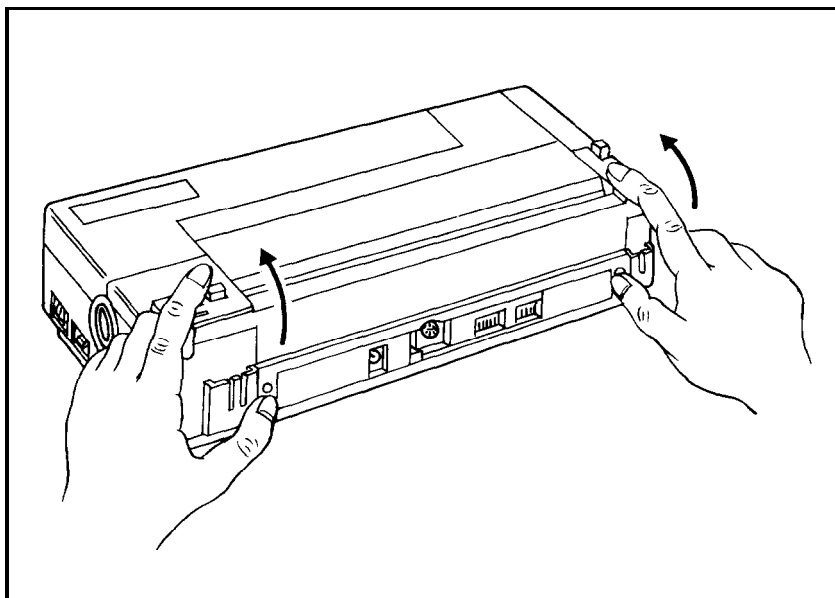

Figure 2-5. Lifting the cover
3. Carefully lift the battery holder cover by placing your index fingers at the top of the cover as shown in Figure 2-5, and your thumbs underneath the ridge at the bottom of the cover.